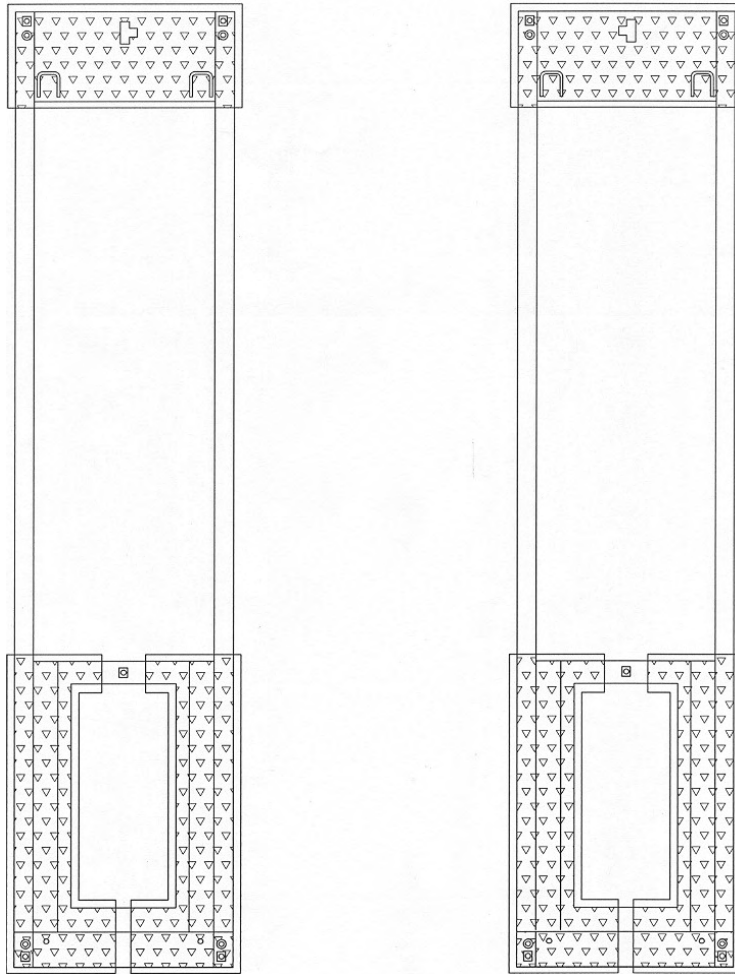

Figure 11 – Grouting Locations
1. Pour grouting under the load area of each base frame as shown in **Figure 11**. Ensure that grout is evenly distributed under the frame and finish the edges with a 45 degree chamfer. Refer to specific grouting instructions on the package. Leave a drain area to allow any liquids to escape.